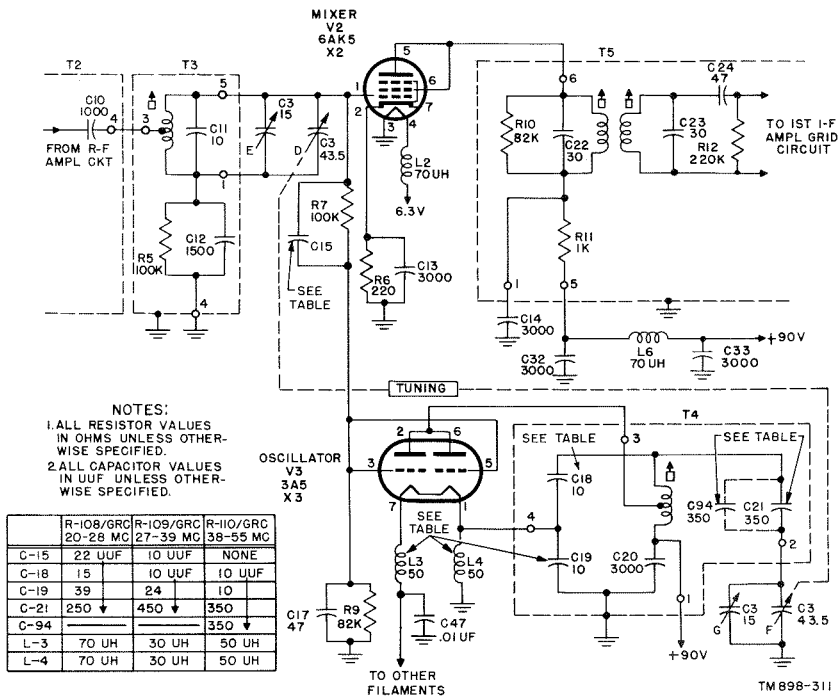

Figure 10. Receiver variable oscillator and mixer circuits.
(fig. 10)
b. Colpitts Arrangement. The arrangement of the oscillator into a modified Colpitts circuit is shown in figure 10. Capacitors C18 and C19 constitute the conventional Colpitts voltage-dividing circuit. The plate of the tube is tied to a tap on the inductance, while the grid is effectively connected through capacitor C17 to ground, and thus to the other end of the tank circuit. Thus, the plate and grid are connected effectively across the oscillator tank circuit. The amount of oscillator feedback is determined by the ratio of the values of capacitors C18 and C19. Oscillator feedback from the plate to the grid circuit is accomplished through capacitor C17. The oscillator output is taken from the grid of V3 through coupling resistor R7 to the control grid of mixer tube V2. In Radio Receivers R-108/GRC and R-109/GRC, resistor R7 is shunted by capacitor C15, which provides additional coupling.